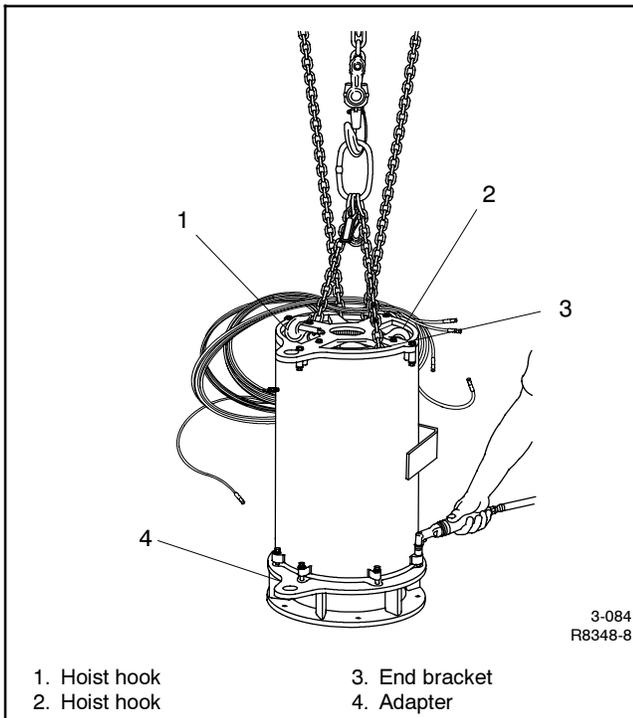

Figure 4-9 Removing Alternator Adapter
- Place the alternator assembly on the alternator adapter end in order to remove the alternator adapter and end bracket from the stator. Fasten chains to the alternator adapter and lower to a horizontal position. Fasten hook to the end bracket eye and hoist to a vertical position. See Figure 4-9.